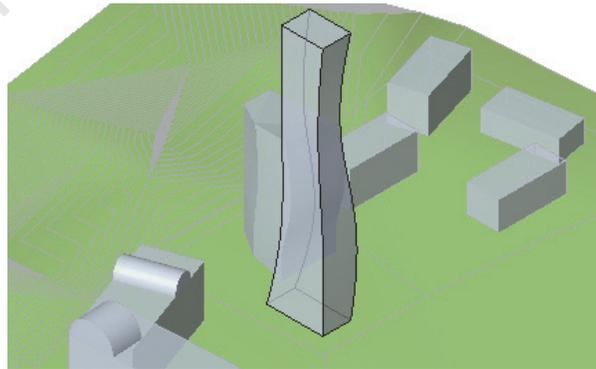

Figure 1–57
11. In the *Modify | Lines* tab>Form panel, click  (Create Form). The new tower displays as shown in Figure 1–57. Your design will vary according to the profiles you drew.